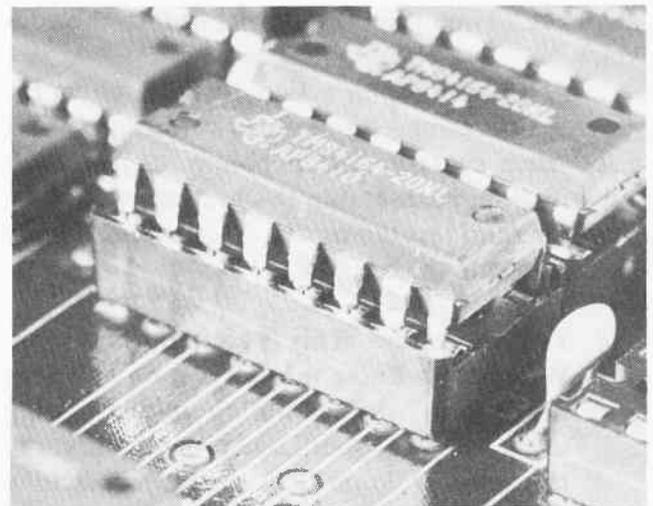

Fig. 3-6. Once each row of pins has been started into the socket, press down gently to complete the chip insertion.
- c. With the chip at a slight angle, press down gently, causing the row of pins in contact with the socket to bend slightly, which lets the other row of pins slip easily into their sockets, as shown in Fig. 3-6.